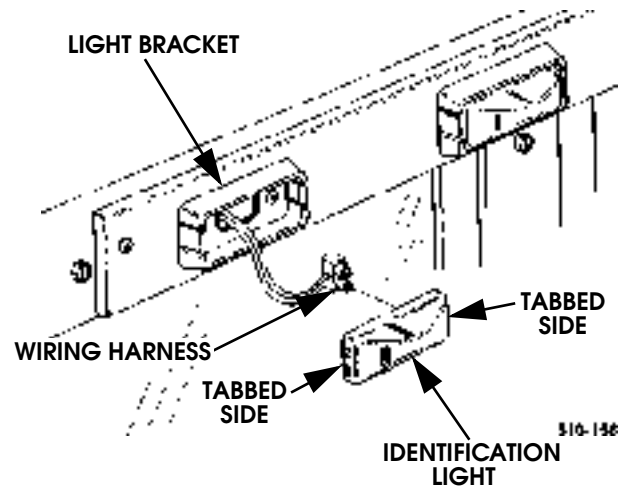

Figure 10-155: Identification Light Replacement
1. Carefully pry tabbed sides of identification light from light bracket (Figure 10-155).
1. Connect identification light to wiring harness (Figure 10-155).